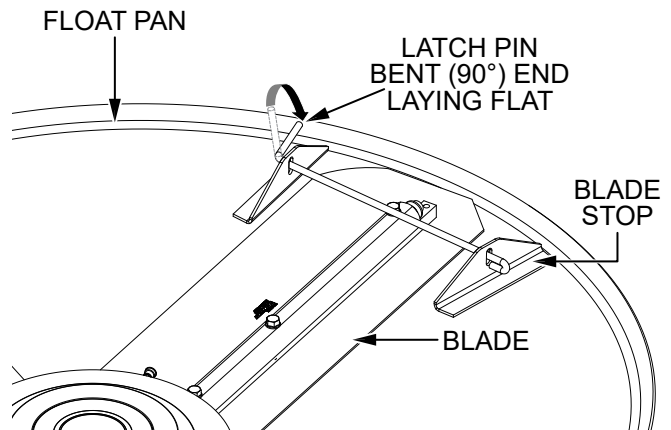

Figure 58. Latch Pin Placement
3. After it has been routed through the blade stop holes, rotate the latch pin so the end that is bent approximately 90 degrees lays flat on the surface of the float pan. See Figure 58.